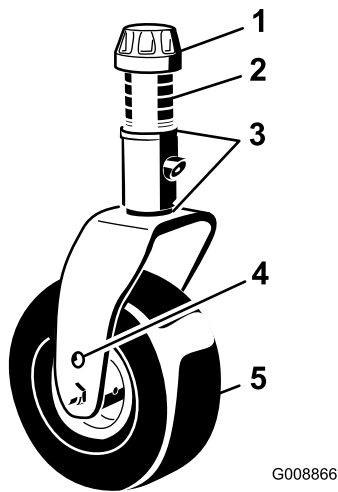
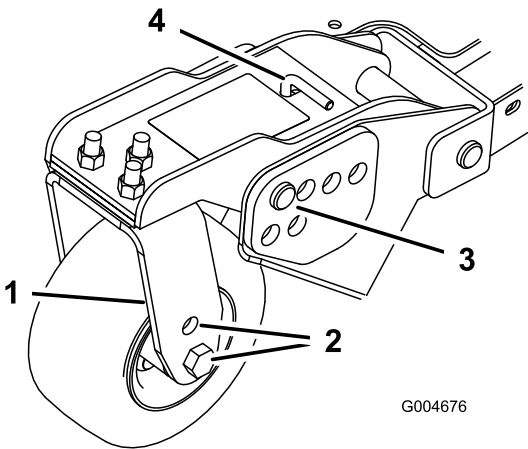

Figure 24
Figure 26
1. Position the caster-wheel axles in the same holes in all of the caster forks (Figure 24 and Figure 26).
2. Remove the tensioning cap from the spindle shaft and slide the spindle out of the caster arm (Figure 24).
5. Remove the hairpin cotter and clevis pins from the caster-pivot arms (Figure 26).
6. Rotate the tension rod to raise or lower the pivot arm until the holes are aligned with the selected height-of-cut bracket holes in the mower-deck frame (Figure 26 and Figure 27).